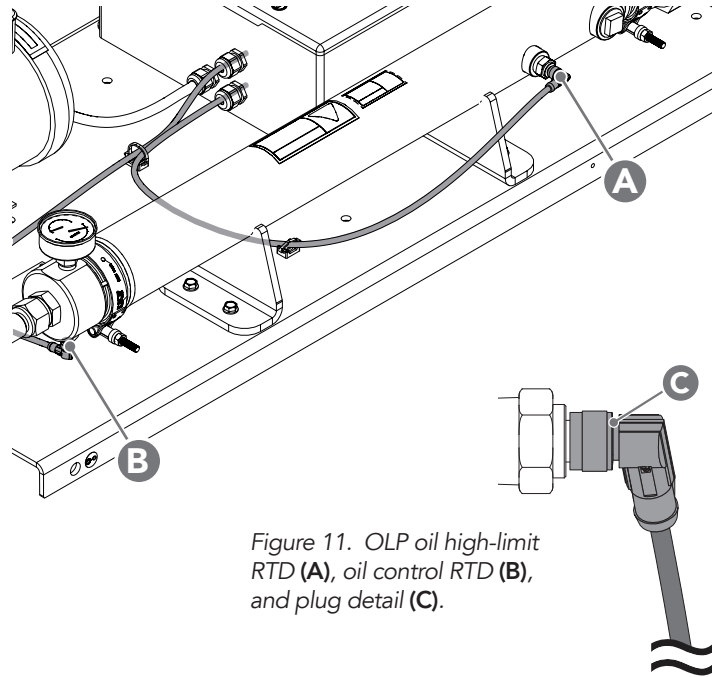
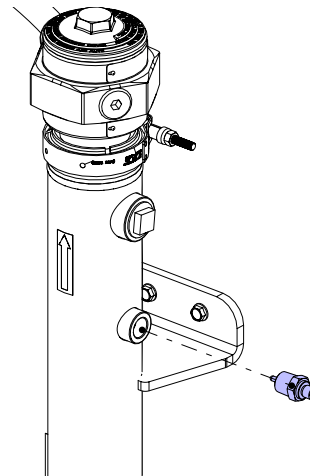

Figure 11. OLP oil high-limit RTD (A), oil control RTD (B), and plug detail (C).
Figure 12. High-limit RTD plug shown removed from OLP heating tank.
- If there **is no continuity** between TCR terminals **T2** and **T3**, locate connected RTD on the heating tank. Unscrew the RTD plug from RTD. See Table 2 and Figure 11, Figure 12 on the following page.
2. Close isolation valves. Drain fluid from the heating tank (see **SECTION 4.2.4**). Locate the RTD that requires replacement. See *Figure 11*.
3. Unscrew RTD plug. Remove plug. See *Figure 12*.
4. Unscrew RTD from tank. See *Figure 12*.